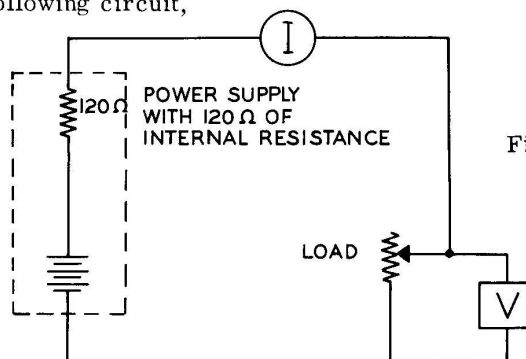

Figure 4-8
**Theory:** Consider the following circuit, Figure 4-8.